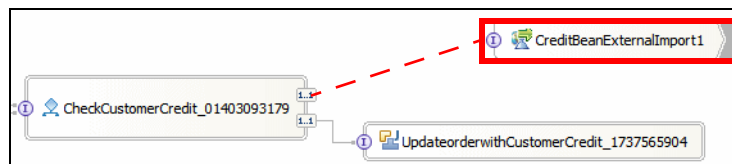

Figure 16-32 Add new Web service
- ▶ Drag `ClipsAndTacksF2` → `Web Service Ports` → `CreditBeanExternal` to the canvas. Select `Import with Web Service Binding` (Figure 16-32).